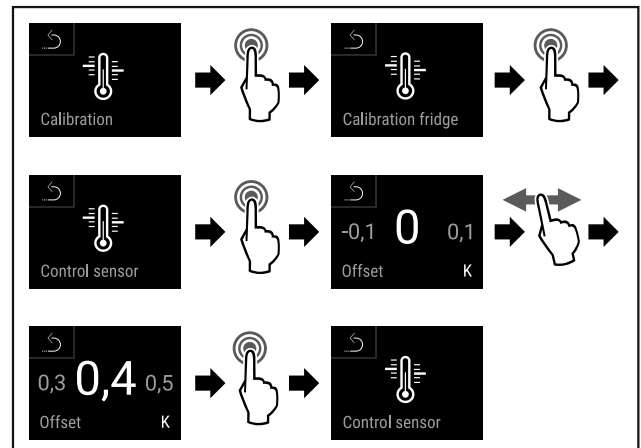

Fig. 138
- ▶ Complete steps (see Fig. 138) .